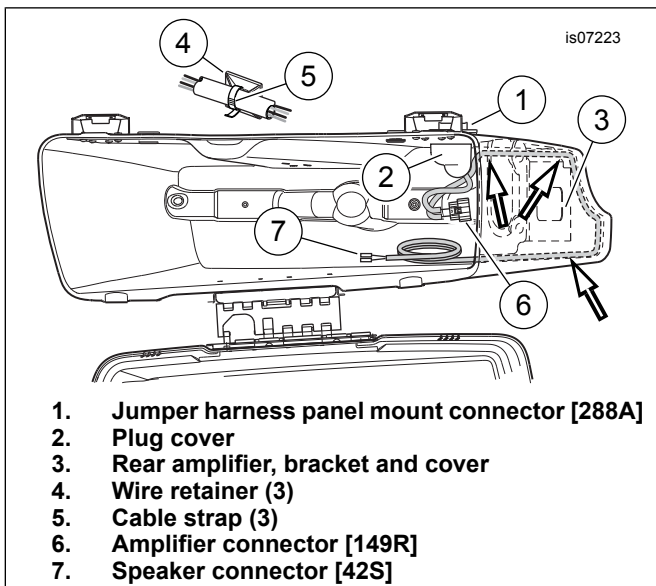

Figure 3. Harness Routing Inside Left Saddlebag
2. See Figure 3. Feed the jumper harness connectors [149R] (6) and [42S] (7), from the outside, through the rectangular opening cut in the saddlebag inboard wall so the 12-way panel mount connector [288A] (1) fits into the opening.
5. See Figure 7. Get three wire retainers (14) and three cable straps (15) from the kit. Remove the liner from the adhesive backing of each wire retainer and affix to the inside walls of the saddlebag, about 25 mm (1 in) above the bottom of the saddlebag as shown in Figure 3. Fasten the jumper harness to the wire retainers (4) with the cable straps (5).
2. See Figure 6. Plug the twelve-way connector (2), labeled "LH S-BAG LOC 288" into the receptacle on the left-side saddlebag (see Figure 3, Item 1). The connector has a key feature to prevent improper assembly. Listen for a definite "click".